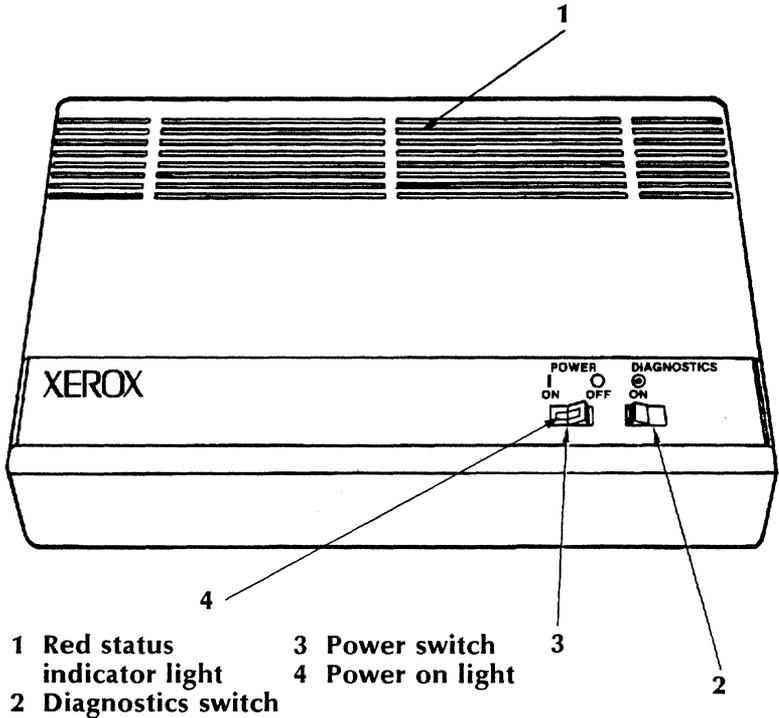

Figure 6-7 Top of 275 IC
- Turn the 275 IC on by pressing the red power ON/OFF toggle switch (located on the top of the 275 IC) to the ON position. Fig. 6-7 shows the top of the 275 IC, the diagnostics switch, the power switch, and power on indicator.